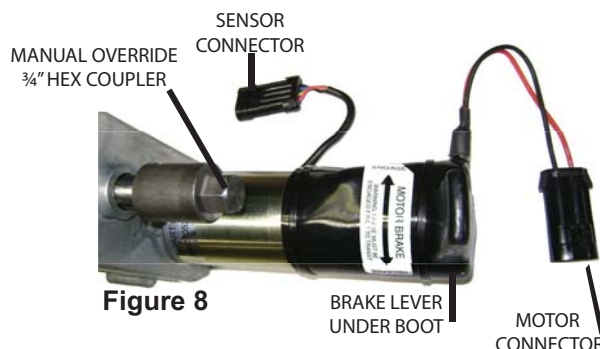

Figure 8
1. Locate the motor and 3/4" hex coupler. (**Figure 8**) The hex coupler may not be attached to the motor as pictured but attached to a system drive component.